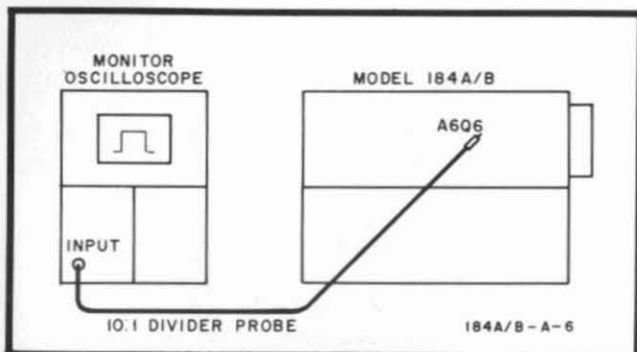

Figure 5-8. Gate Amplifier Response Adjustment
e. Using 10:1 divider probe and monitor oscilloscope, observe gate pulse signal at collector of A6Q6 (figure 5-8).